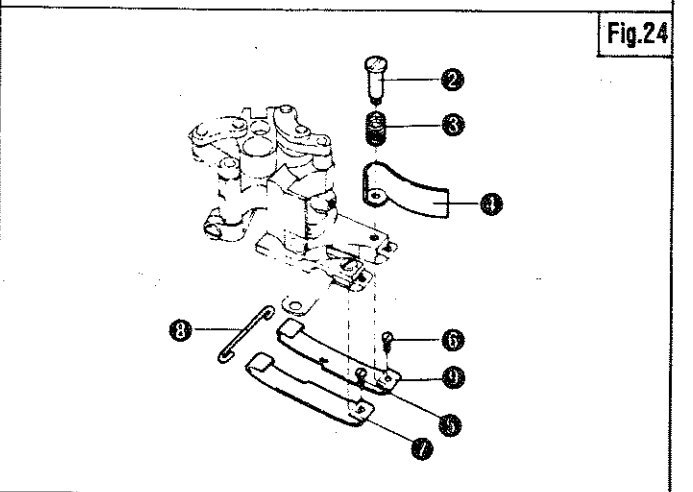

Fig.24
## PRESSER SHOE CHANGE (Fig. 24)
Refer to Fig.24 and remove ②~⑨ in sequence. To assemble, fit the parts in the reverse order.
- To replace ⑦ and ⑨, raise Needle Bar to the upper dead point and keep Presser Foot up.